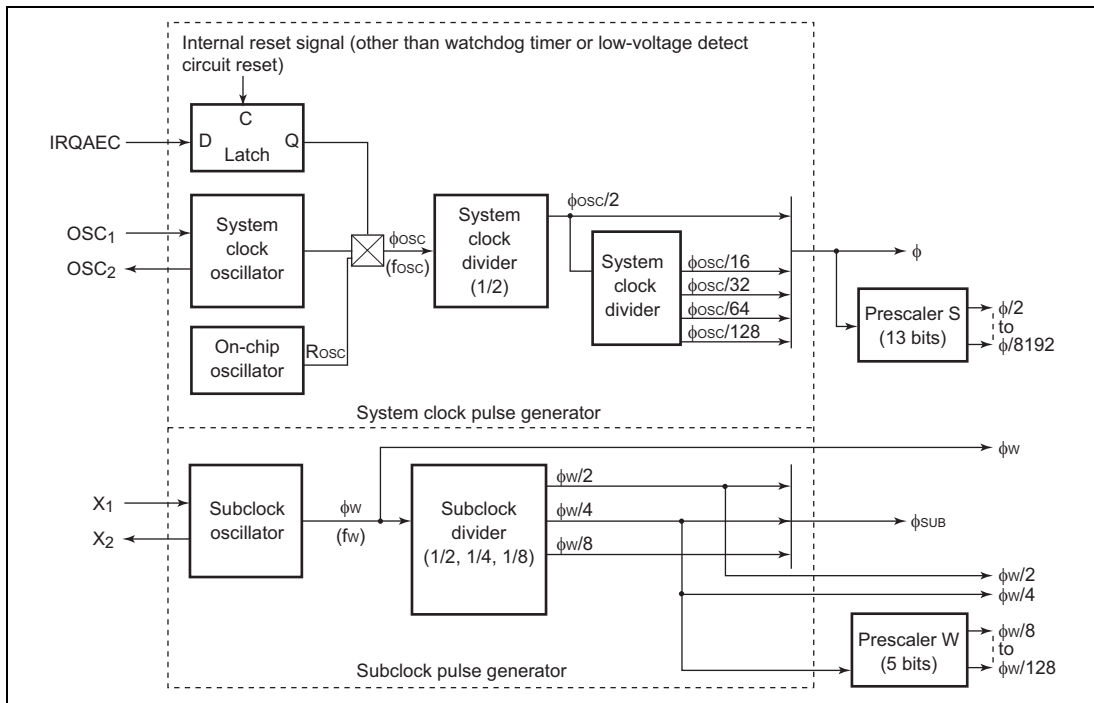

Figure 4.1 Block Diagram of Clock Pulse Generators
Figure 4.1 shows a block diagram of the clock pulse generators.
Clock pulses can be supplied to the system clock divider either by connecting a crystal or ceramic oscillator, or by providing external clock input. As shown in figure 4.1, the selection between a system clock oscillator and an on-chip oscillator is supported. See section 4.2 (5), On-Chip Oscillator Selection Method, for information on selecting the on-chip oscillator.
(1) Connecting a Crystal Oscillator